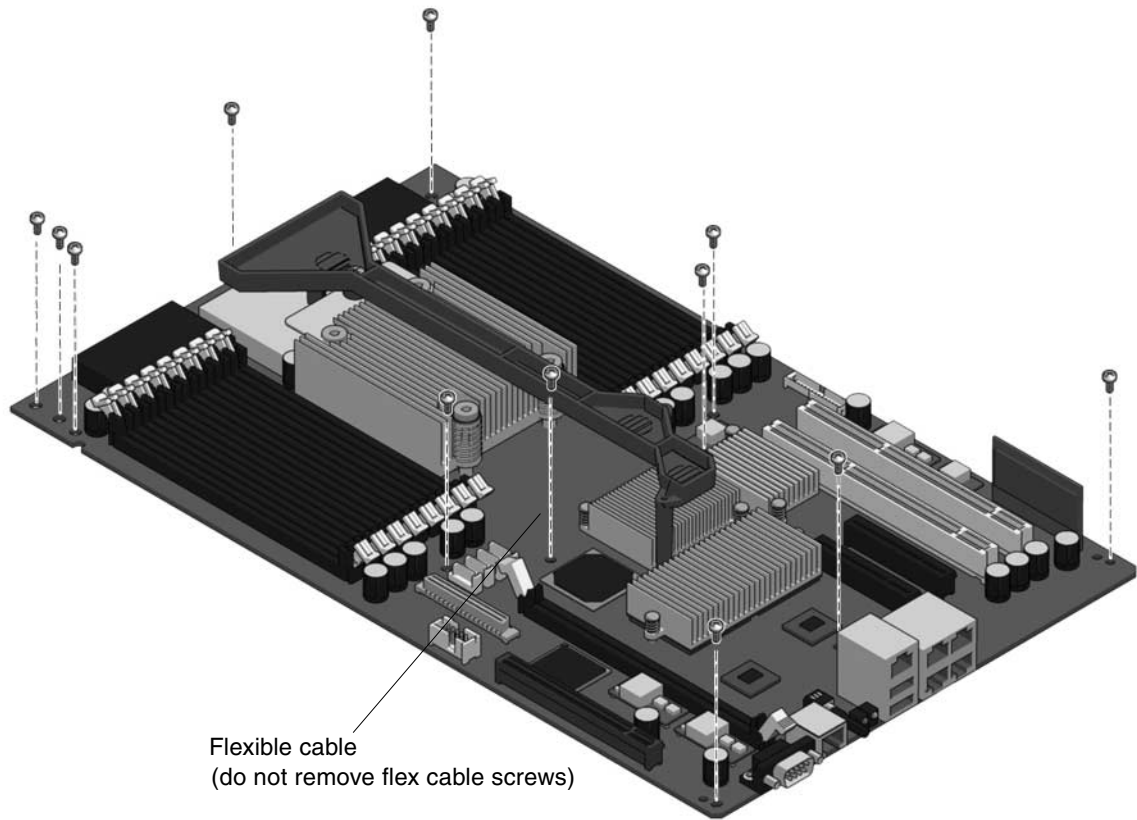

FIGURE 5-13 Location of the Screws in the Motherboard Assembly
7. Remove the screws that secure the motherboard assembly to the chassis (FIGURE 5-13).